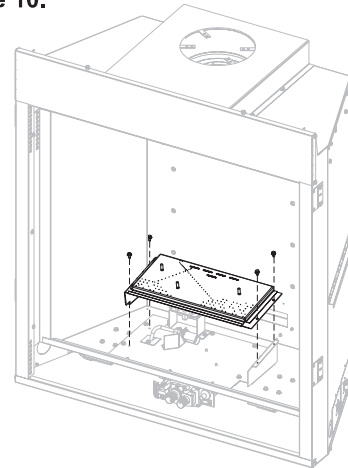

Figure 10
7. Remove the four screws securing burner and slide to right then lift burner off. Retain burner and screws for reassembly. See Figure 10.
16. Reinstall the burner and four screws removed in step 7. **See Figure 10.**